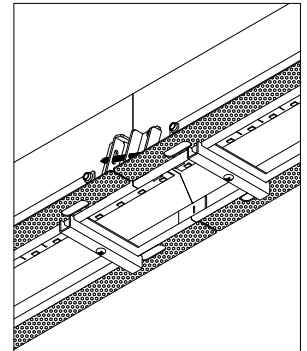

Fig. 5 Shipping brace before removal.
- Shipping braces intended to keep fixture opening to size (Fig. 5). Remove shipping braces only after perforated flanges completely attached to blocking. To remove brace: loose brace screw and turn brace plate 90°.